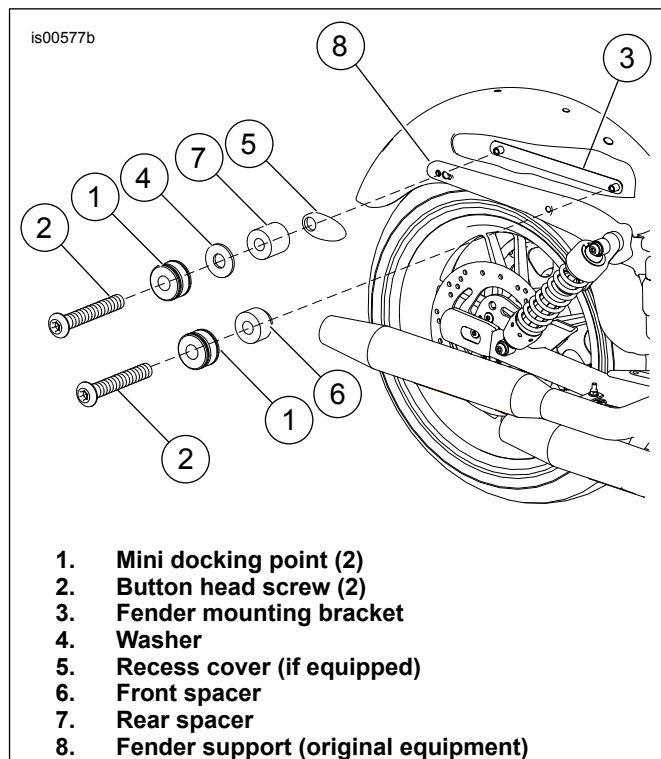

Figure 4. Install Fender Mounting Kit (Models without Detachable Accessories)
- See Figure 4. Place new fender mounting bracket (3) inside fender so the threaded bosses fit inside the two holes in the fender.